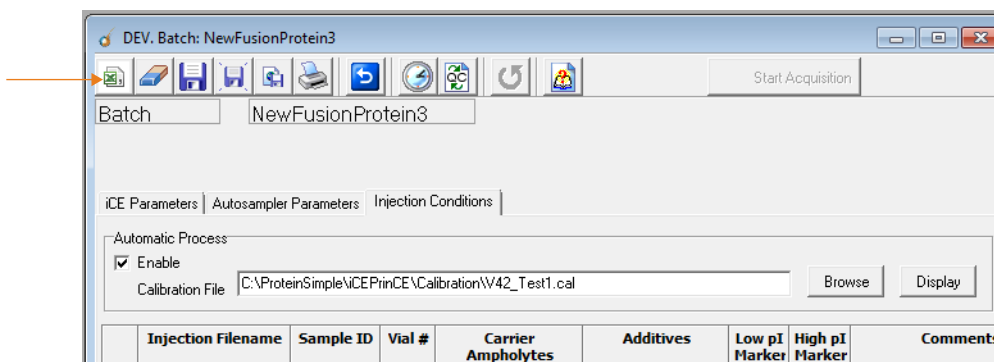

Figure 6-22: Filling table with CSV button.
- a. **Click the CSV button in Development Mode** - This fills the cells with the same information in the selected .csv template. (Figure 6-22).